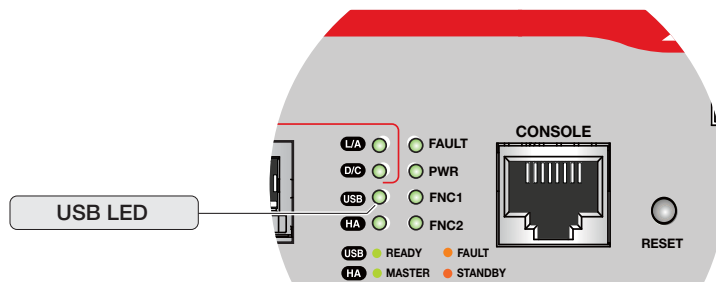

Figure 7. USB LED
**USB LED** The USB LED reports the status of the USB memory device. The LED is shown in Figure 7.